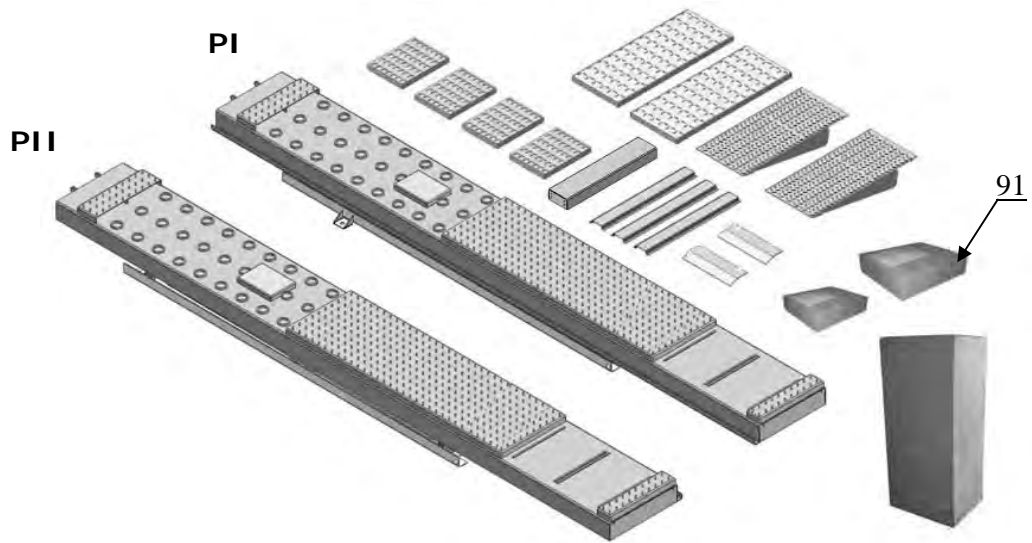
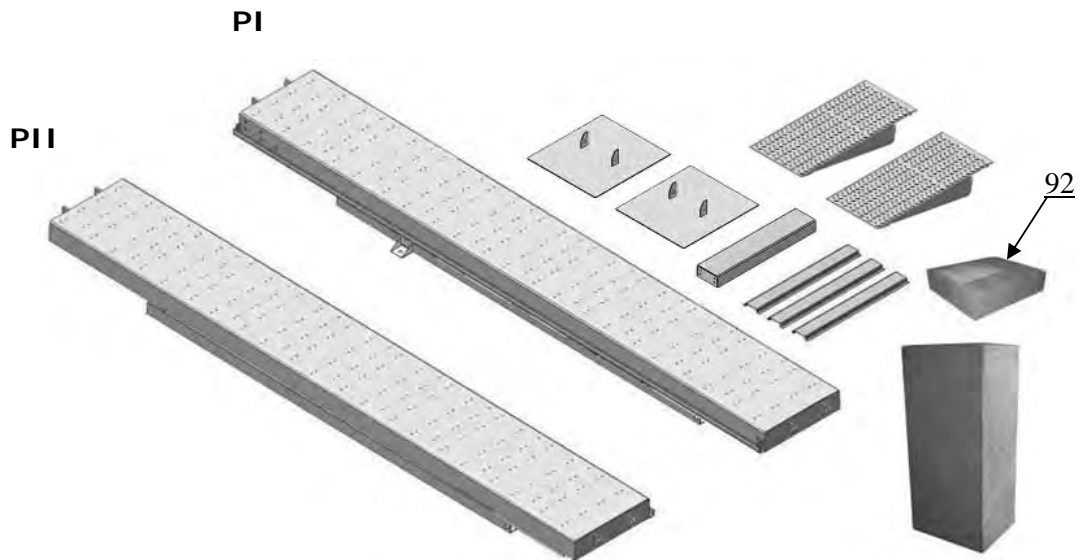

Fig. 11
Fig. 12
2.1 Parts for lift of on surface installation (See Fig.11, Fig.12)